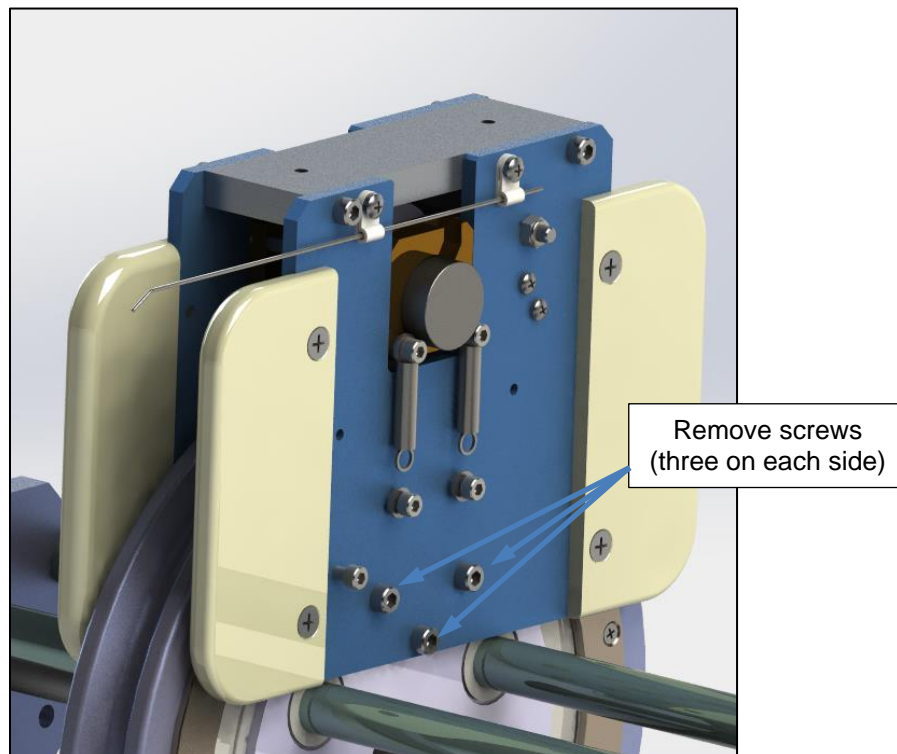

FIGURE 23: AUTO LEVEL WIND TETHER REMOVAL
- b. Winches with automatic level wind (Figure 23):